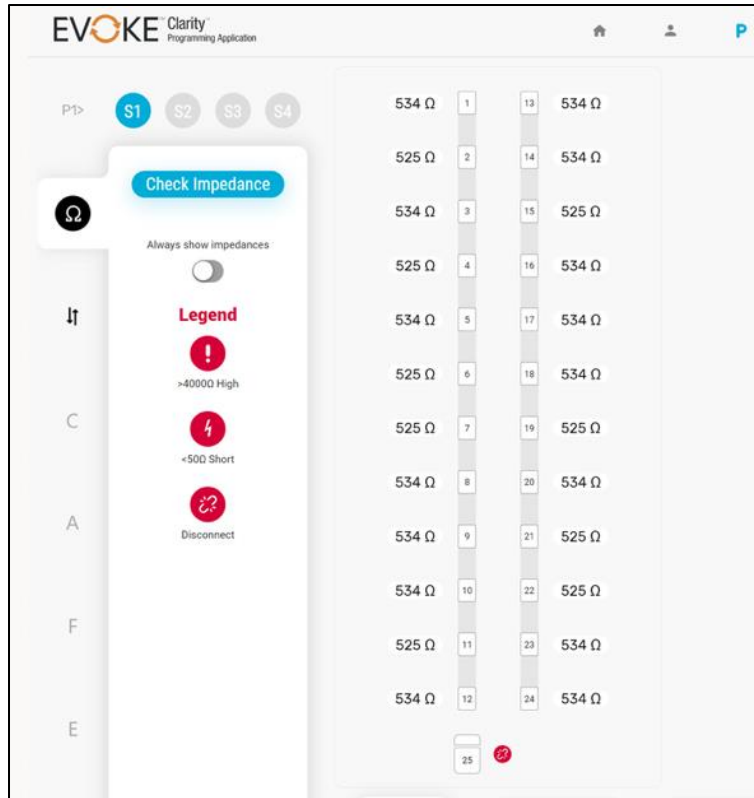

Figure 6.20: Impedances displayed on the 24 electrodes and CLS case (E25).
2. Touch the Impedance Ω tab, and the Check Impedance button (see Figure 6.20).
3. The impedances on the 24 electrodes and CLS case (E25) will be shown in the electrode display (see example in Figure 6.20).